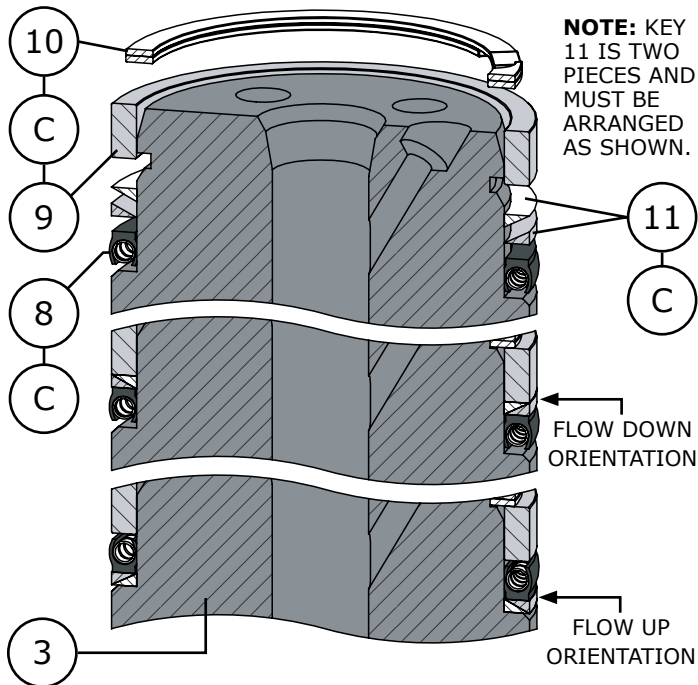

Figure 19 Plug Seal Assembly with Anti-Extrusion Ring
- 3 Apply Lubriplate® No. 105 (Key C) to the anti-extrusion ring (Key 11) and install the anti-extrusion ring on to the valve plug as shown in Figure 19. **CAUTION:** Anti-extrusion rings are only used for valve assemblies rated to exceed 450°F (232°C).